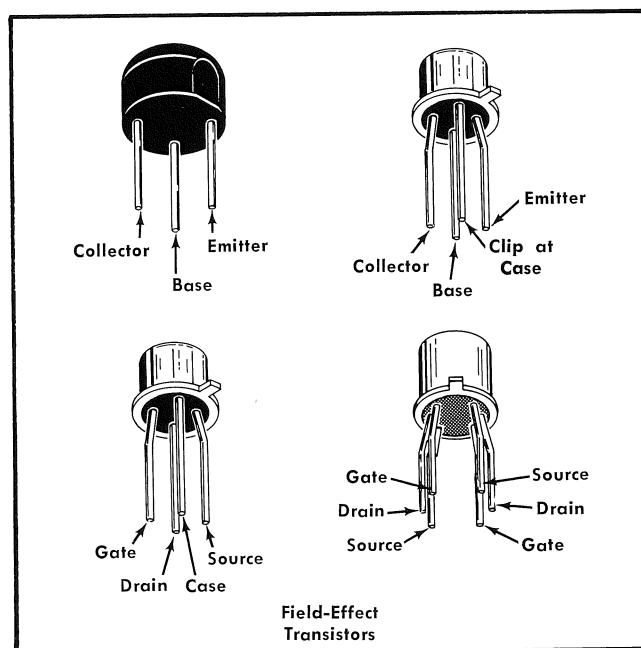

Fig. 4-1. Lead configurations of transistors in the Type S-5.
**Transistor Replacement.** Cut the leads of a replacement transistor to the same length as the transistor removed and bend the leads as necessary. The lead configurations of the transistors used in the Type S-5 are shown in Fig. 4-1. Location of all transistors is silkscreened on the circuit board next to the mounting or pin socket which is fabricated as part of the circuit board.